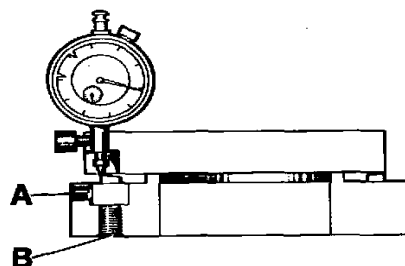

Fig. 45. Adjusting the cutter
4. If necessary loosen the locking screw A, fig. 45 (Allen key 4 mm = 5/32") and the adjusting screw B (Allen key 5 mm = 3/16") a few turns. Press down the cutter holder and tighten the locking screw somewhat so that it presses against the holder.
5. Place the indicator tip against the highest point of the cutter and screw the adjuster screw (B) upwards until the indicator shows 0.10 mm (0.0039"). Tighten the locking screw (A).
1. Loosen the locking screw (A, fig. 45) and screw the adjuster screw (B) upwards so that the cutter holder can be removed from the cutter head.